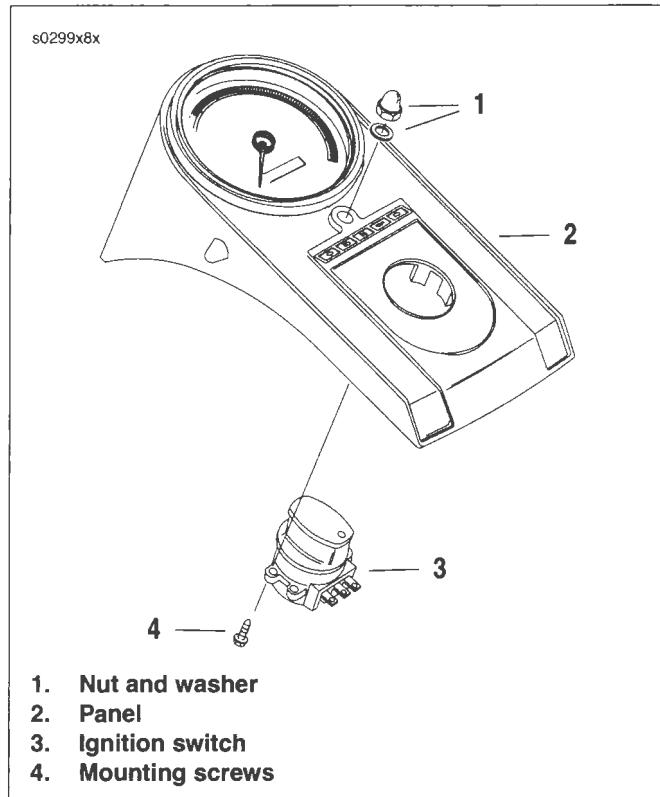

Figure 8-17. Ignition Switch
- a. For all models except FXSTD, see Figure 8-17. Remove acorn nut and washer (1) from instrument panel (2) and remove panel. Note position and color of the switch wire connectors. Disconnect wires.
4. Remove mounting screws (4). Replace switch.
- a. For all models except FXSTD, See Figure 8-17. Install instrument panel (2) using acorn nut and washer (1). Tighten to 14-18 ft-lbs (19.0-24.4 Nm).